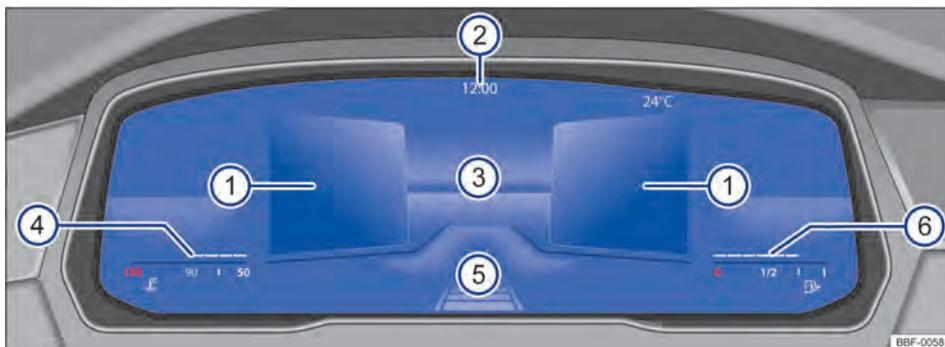

Fig. 10 Active Info Display (version 2) on the dash panel.
Explanations to the instruments → Fig. 10:
The main display → Fig. 10③ can be switched by pressing **[View]** on the multifunction steering wheel. The representation in the display area can show the following views:
- **Summary:** after completing the readiness check: displays information on vehicle status in areas ①, such as current mileage.